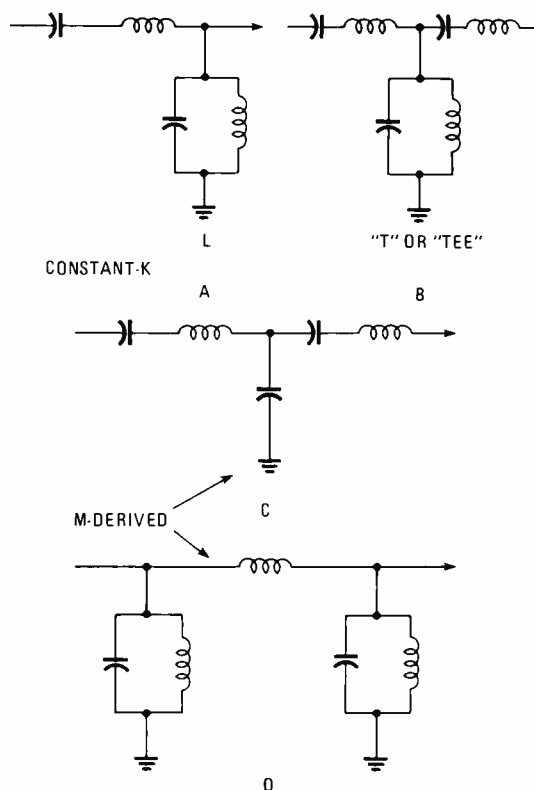

Fig. 25—The more complex bandpass filters are the constant-k and m-derived types. They provide steeper attenuation, and therefore, greater selectivity.
50. (high resistance, greatest or maximum) Resistors are not ordinarily used in BPF circuits because of the great signal attenuation they cause. Instead, both parallel and series LC resonant sections are combined to create highly-selective bandpass filters. Figure 25 shows several popular variations. A and B are constant-k BPF's where the resonant sections, both parallel and series, resonate at the center frequency. At C and D are m-derived BPF's, whose LC sections resonate at two different frequencies, namely the upper and lower cut-off frequencies. This provides steeper attenuation rates and improved selectivity. There are many other variations of these basic circuits.